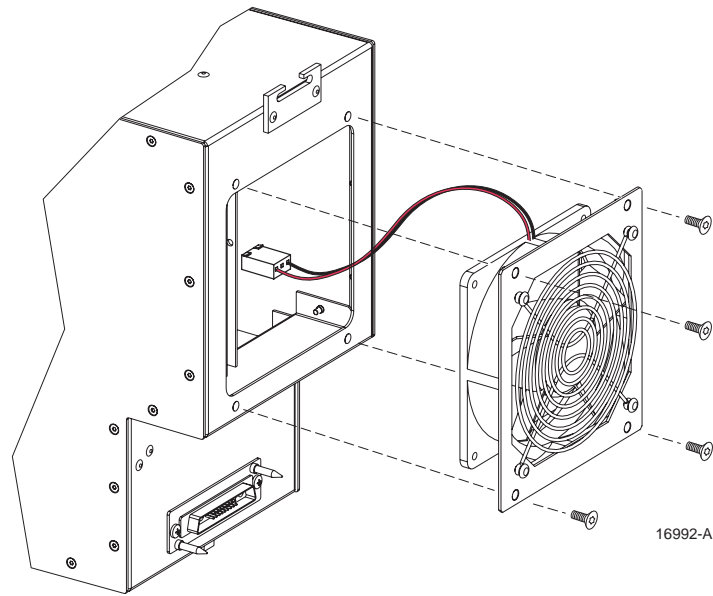

Figure 5-5. STM Fan/Grill Assembly Removal
6. Remove the four pan-head screws (requires TORX screwdriver with T10 bit) that secure the fan/grill assembly to rear side of the STM housing as shown in Figure 5-5. Save screws for reuse.
13. Secure the fan/grill assembly to the back of the housing (see Figure 5-5) using the four pan-head screws removed in step 6. Do not overtighten the screws. The screw threads can be easily stripped if too much torque is used to tighten the screws.